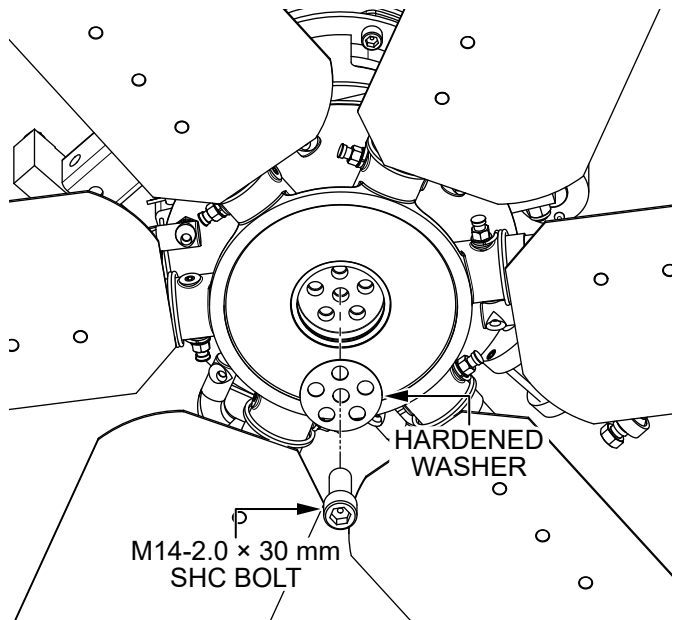

Figure 55. Install New Center Bolt And Washer
7. Install the new **M14-2.0 × 30 mm SHC bolt** in the *center position* along with a **new hardened washer** as shown in Figure 55. Torque the center bolt to 40 lbf·ft (54.2 N·m).